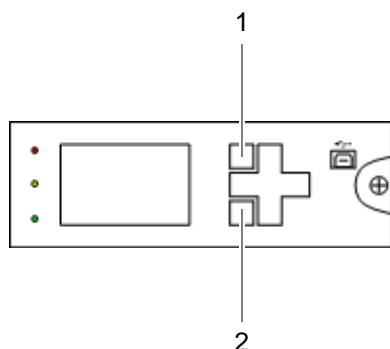

Figure 11.29 SC200 – Softkeys
1. Press softkey 1 to open the main menu, refer to Figure 11.29 on page 212.